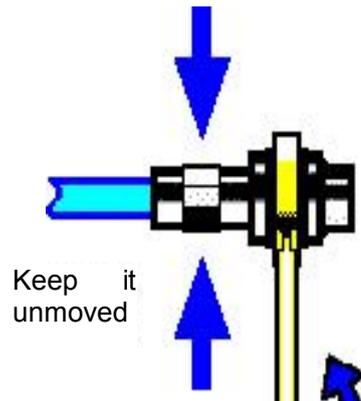

Fig.2.6 Completion of Final Connection with a Torque Wrench
**Step 3. As shown in Fig.2.6, use a torque wrench to complete the final connection. It should be noted that the torque wrench should not exceed the starting kick point. An auxiliary wrench can be used to prevent the connectors from rotation.**